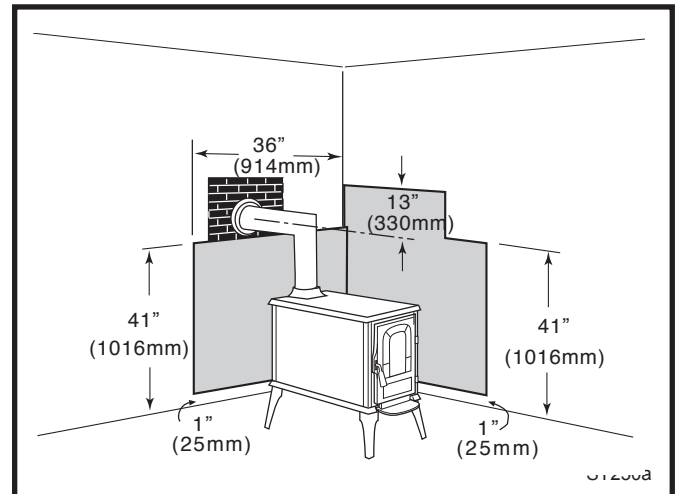

Fig. 18 Parallel installation with rear wall pass-through, two wall shields.
**Parallel installation with rear wall pass-through, two wall shields.** Fig. 18: Reduced clearances for both rear and side walls. Wall shields may meet at corner if desired. Shielding for connector is centered behind connector. Wall pass-through must comply with codes.